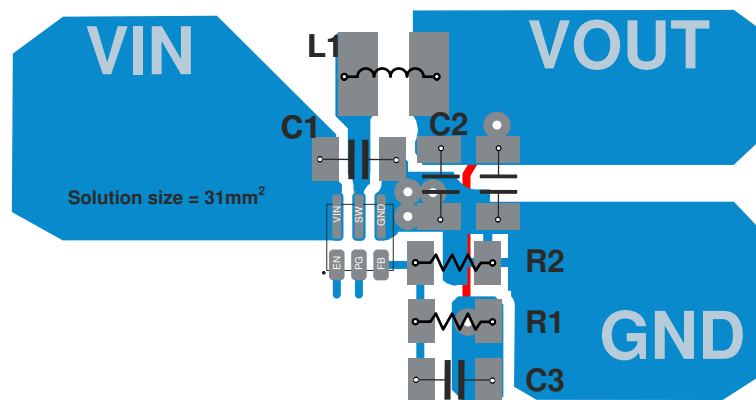

Figure 10-1. PCB Layout Recommendation
The printed-circuit-board (PCB) layout is an important step to maintain the high performance of the device. See Figure 10-1 for the recommended PCB layout.
- Refer to Figure 10-1 for an example of component placement, routing and thermal design.